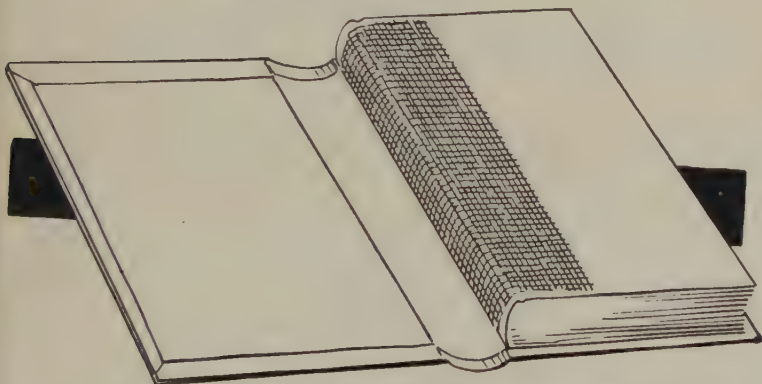

FIG. 214—LINED-UP BOOK LAID ON COVER TO TEST FIT OF COVER
2. Lay book on right half of cover, head of book to top of cover, front edge to right, under-side joint of book just projecting over the edge of board *in the back space*. (Fig. 214.)
1. Lay out book on cover as in Fig. 214.